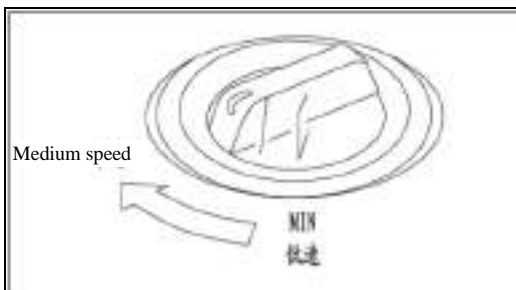

Figure 4-21 Fuel control knob medium speed
a) Turn the fuel control knob to the center of the low and high speed as shown in Figure 4-21, and run the engine for about 5 minutes under the no-load condition.
- a) Turn the fuel control knob to the medium speed position as shown in Figure 4-21.